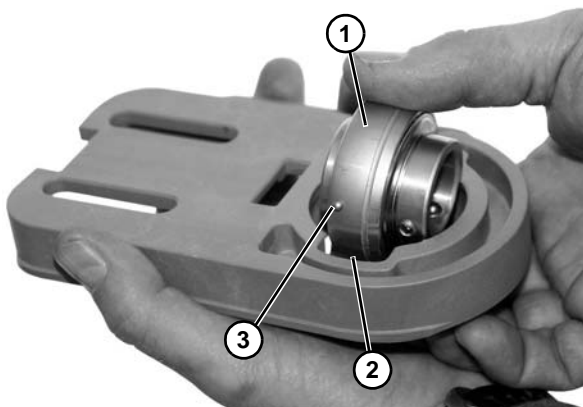

Figure 58
3. Turn bearing (**Figure 58, item 1**) to align with slots (**Figure 58, item 2**) in bearing housing. Then remove bearing.
5. Insert bearing (**Figure 58, item 1**) into housing slot. Locate anti-rotation nub (**Figure 58, item 3**) to align with slot (**Figure 58, item 2**) and twist bearing into housing.